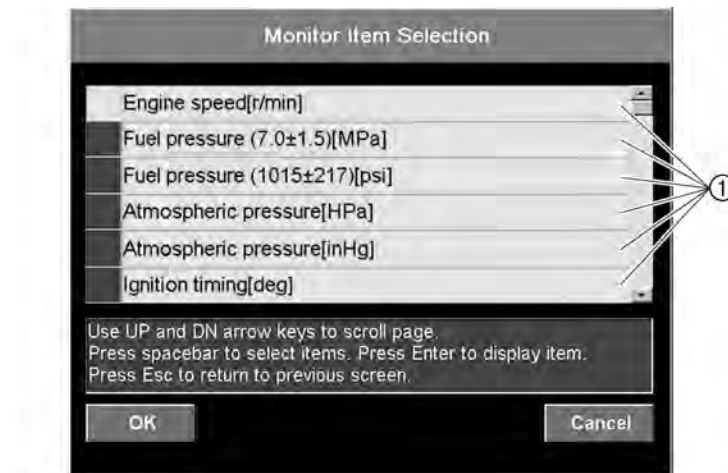

Fig. 48
2. Select an item by either clicking it or pressing the up or down arrow keys on your keyboard, and then press the space bar. (Fig. 48)
3. Click the **OK** button or press the Enter key on your keyboard. The **Engine monitor** window appears. To cancel the monitor, click the **Cancel** button or press the Esc key on your keyboard. (Fig. 48)